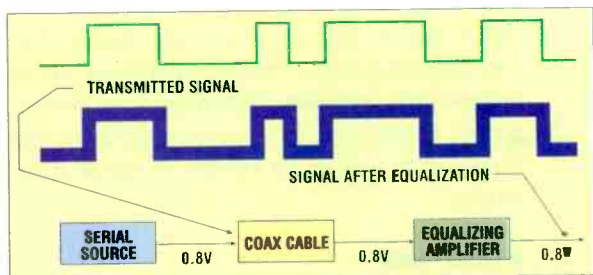

Figure 2. Basic serial digital transmitter/receiver system. Note typical voltage levels and the function of the equalizing amplifier.
Figure 2 shows a block diagram of a basic serial digital transmitter and receiver system. The intuitive method of testing the serial link is to add cable to the point where the link is unusable. Because coax is not itself a significant source of noise, it is the *noise figure* (NF) of the receiver that will determine the basic operating S/N of the system. Assuming an automatic equalizer in the receiver (which is usually the case), as more cable is added, eventually the signal level resulting from coax attenuation will cause the S/N in the receiver to be such that errors occur.